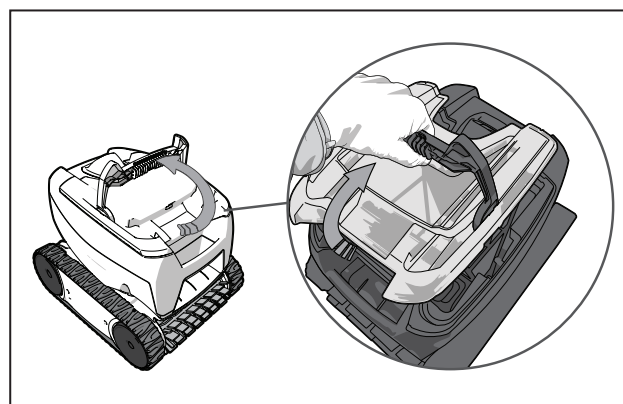

Figure 7. Release Filter Canister Handle
2. Release the canister handle by rotating handle upwards (Figure 7).